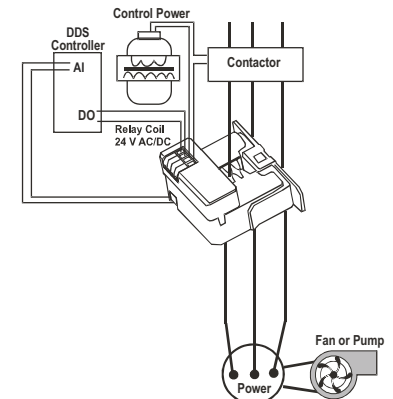

Figure 2: CTCGA420NN
5. Reconnect the power conductor cable (For wiring example, see Figure 2.)